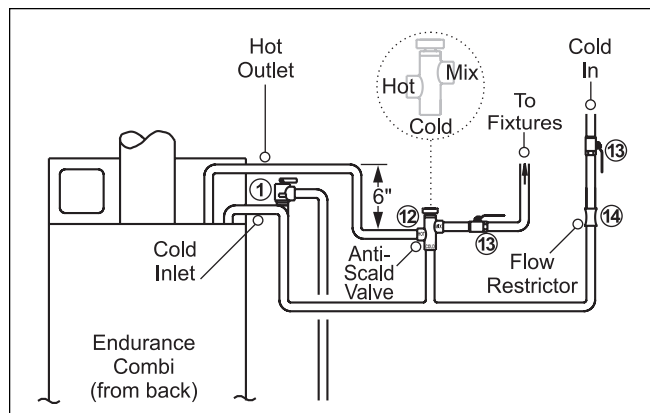

Figure 16. Domestic Water Piping.
1. Connect tempering (mixing) valve (12) "Hot" port to hot water outlet from unit. This valve should be rated no higher than 120°F mixed delivery temperature or as local codes dictate. **LAARS RECOMMENDS ANTI-SCALD TEMPERING (MIXING) VALVES** (see Figure 16).
2. Connect gate or shutoff valve (13) to tempering (mixing) valve (12) "MIX" port, and cold water inlet.
3. Install supplied flow restrictor (14) ahead of tempering (mixing) valve tee.
4. Connect pressure relief valve (1) (if required by codes), rated at maximum 150 PSI as close to the unit as possible. No other valves or restrictions may be installed between the Endurance and the relief valve.